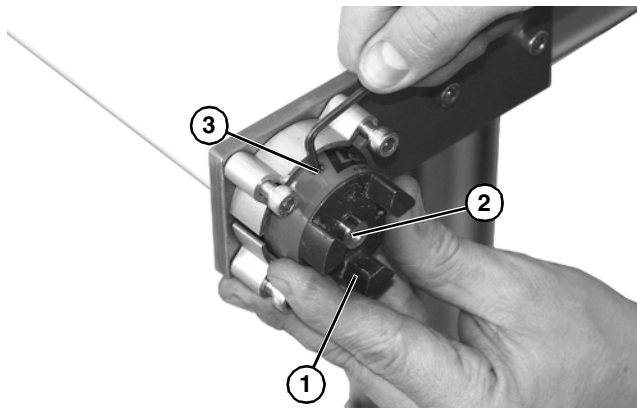

Figure 5
6. Install three jaw coupling (Figure 5, item 1) onto shaft (Figure 5, item 2).
7. Be certain three jaw coupling is fully on shaft and secure position with set screw (Figure 5, item 3).